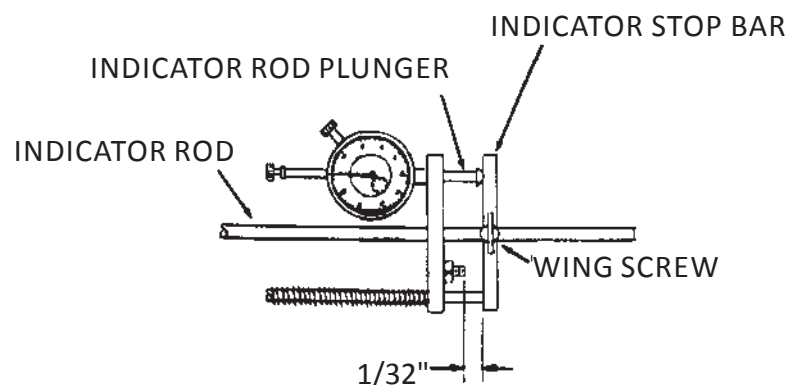

FIG. 58
A. After grinding a reel, check the roundness on each end of the reel and center before removing ground reel. See FIG. 57. Loosen the knob on the indicator rod firmly against one blade. Pull the indicator stop bar back until there is a 1/32" gap between it and the set screw. This is to permit rotation of the reel blades to ride on the domed anvil only. See FIG. 58. At each location (left, right and center) turn the reel by hand and observe the indicator variations. All readings should be within .002".